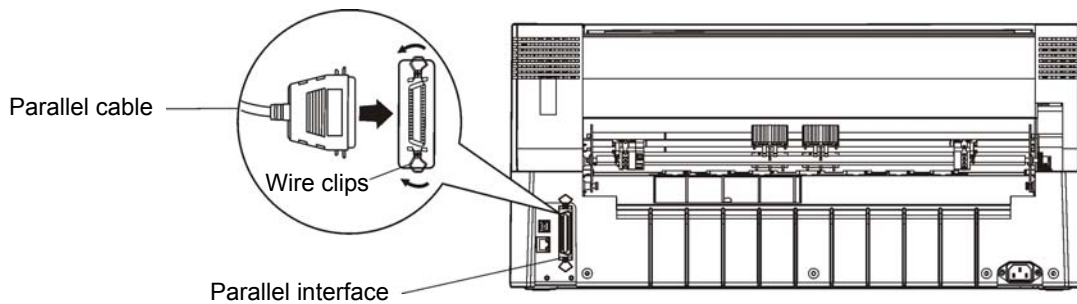

Figure 2-15 Connect to the parallel interface
Your printer can be configured with parallel interface, USB interface, serial interface or Ethernet interface, (according to the specific interface standards). Connect the printer to your computer as described below. As Figure2-15, 2-16, 2-17 and 2-18 show.
1. Turn off both the computer and the printer. Plug the parallel cable connector securely into the printer's parallel interface. Squeeze the wire clips together until they lock in place on both sides of the connector. As shown in Figure 2-15.